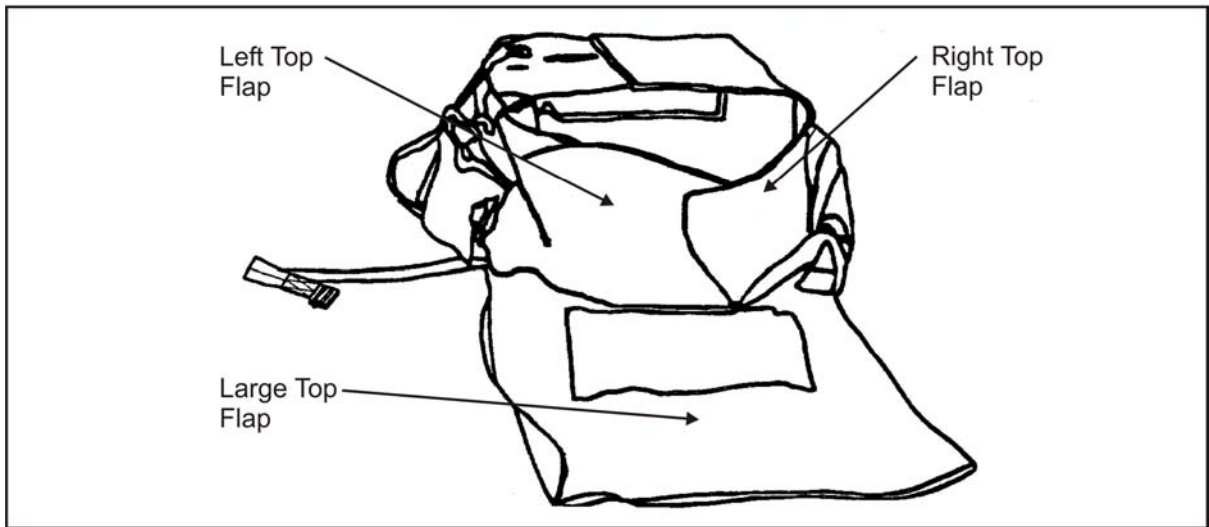

Figure 5-17. Top Flaps
- Still standing at the top, folds the left top flap and then the right flap (Figure 5-17, page 5-19).
- Folds over the large top flap (Figure 5-17).